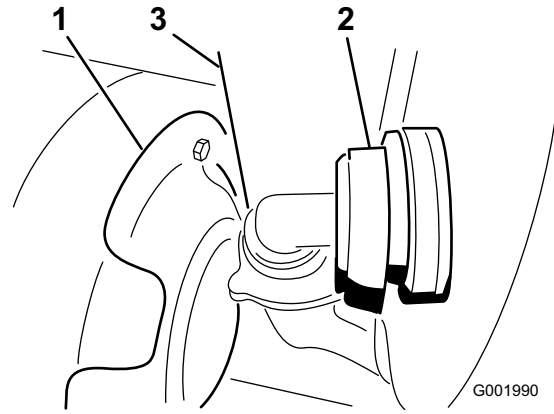

Figure 54
3. Disconnect the hose located on the lower-front face of the tank (Figure 54).
Note: You may need to push the heat shield (Figure 54) back as you remove the cover.
7. Connect the hose on the front of the tank (Figure 54).